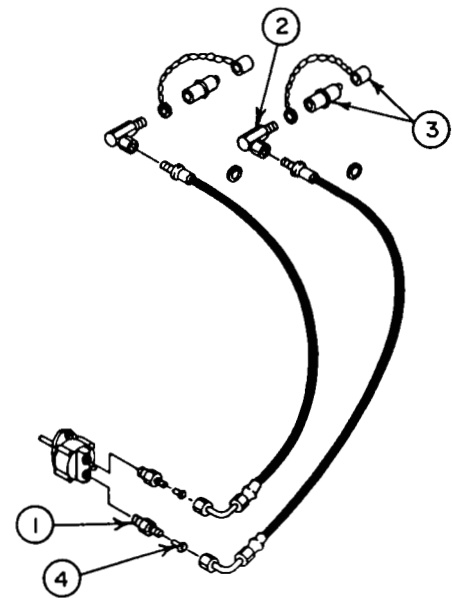

FIGURE 5
- j) Install a connector 7/8" O.R.B. male x 9/16"-18 J.I.C. male (fig.5, item 1) in each port of hydraulic motor. Tighten.
- k) Install 90° elbow 1/4" male x 1/4" pivoting female (fig.5, item 2) at male end of hoses.
- l) Using thread sealant, attach a male quick coupler with rubber, dust cap (fig.5, item 3) on each elbow (dust cap ring must be on hose before installation).
- m) Connect the two hydraulic hoses to the motor, placing a flow restrictor (fig.5, item 4) in connector (fig.5, item 1).